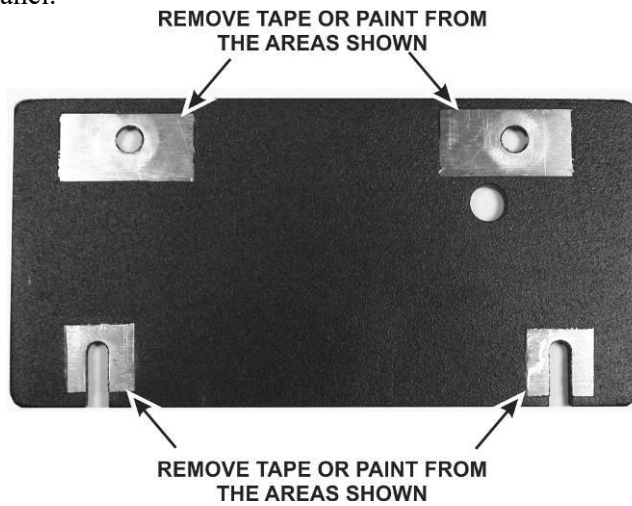

Figure 40. Preparing the Right Side Panel for Mounting.
☐ Position the left side panel on the front panel assembly and install the two knurled nuts as shown in Figure 40. The knurled nuts must be installed first to ensure the nuts fit properly into recessed openings and contact the bare metal. Note that the knurled nuts have slots on the side facing away from the panel. You can tighten the nuts with a small screwdriver or other tool pressed gently in the slot. Take care to avoid scratching the paint.
- Unwrap the right side panel and clean it as needed (see Figure 40). The paint is **not** removed from any areas on the outside of this panel.